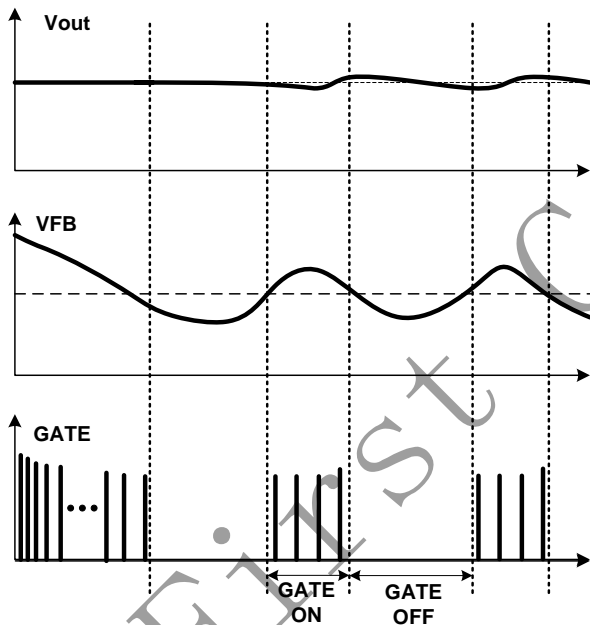

Fig.5
■ When zero or very light load conditions, the IC enters into burst mode. In the burst mode (as illustrated in Fig.5), the valley locking counting number is fixed at 8. In this way, a small standby power can be achieved.
When the loading is very small, the system enters into burst mode. When VFB drops below VFB_min_duty, SF5873 will stop switching and output voltage starts to drop, which causes the VFB to rise, as shown in Fig.5. Once VFB rises above VFB_min_duty, switching resumes. Burst mode control alternately enables and disables switching, thereby reducing switching loss in standby mode.